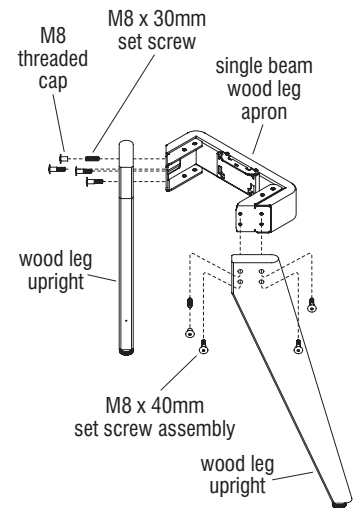

Figure 5 - Single Beam Wood Leg Unit - End Legs
1. Carefully unpack Connection Zone components, review the space-planning layout and study Figures 5 & 6 to identify parts to assemble. Position all legs and beams onto the floor per the space-planning layout (Figures 5 & 6).
2. Locate the wood leg benching end leg hardware parts bag. Thread each M8 x 30mm set screw into a M8 threaded cap to create the M8 x 40mm set screw assemblies for the next step (Figure 5).
3. Align the holes of the wood leg uprights with the holes on the single beam wood leg apron. Insert and tighten four M8 x 40mm set screw assemblies through the leg and correctly positioned apron (Figure 5).